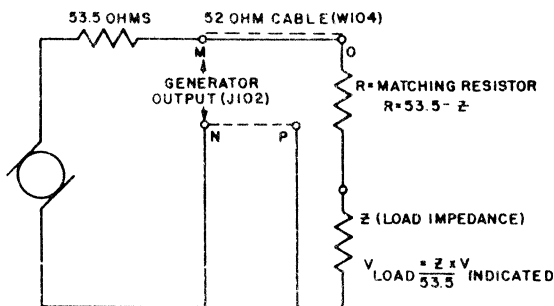

Figure 2-13. Equivalent Circuit of X MULT RF OUTPUT (J-102) with Series Matching Resistor Added
g. When the load impedance is less than 53.5 ohms, the impedance adapter cannot be used. In this case, a non-inductive composition resistor should be added in series with the input element at the receiver under test, so that the sum of the receiver input impedance and this resistor will be 53.5 ohms (See figure 2-13). The total load impedance will then match the signal generator impedance at J-102 and standing waves will be minimized. The actual receiver input voltage can then be calculated from the formula indicated in figure 2-13. When applying this procedure, it will probably be necessary to file down a larger standard resistor to get the precise value required. Use the Resistance Bridge ZM-4/U or equivalent to measure the resistance. For example; if the load impedance of the receiver (Z) is equal to 30 ohms, a series resistor (R) of 23.5 ohms must be added in series with the receiver. A meter (M-101) indication of 10,000 microvolts will then represent an actual receiver input